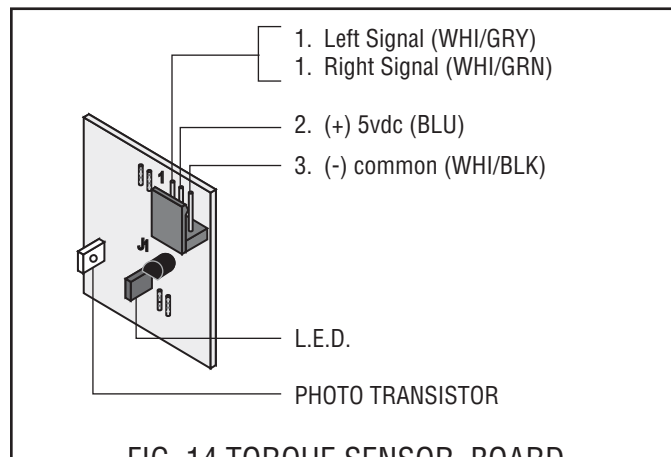

FIG. 14 TORQUE SENSOR BOARD TERMINALS
2. Using a strip of paper, momentarily block the light path between red LED and white photo transistor. If the meter displays 5vdc when blocked and 0v when unblocked, then the Torque Sensor is good. If there is no 5vdc reading, verify that both red and white sensors are clean. See FIG. 14.